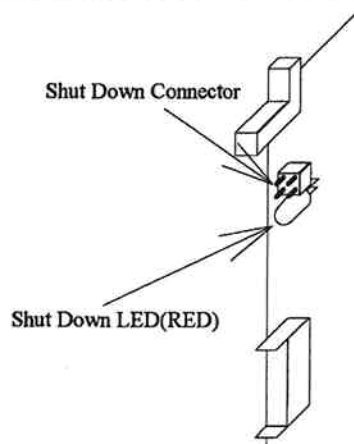

Fig. 3.4.8.5.2-1 Shut Down LED
- a. Confirm that Shut Down LED lights.(Fig. 3.4.8.5.2-1) If the LED does not light, see Connection of Shut Down Jumper(INST03-2600).
- a. Disconnect the SCSI cables from the sub-edge connectors on the PCB referring to Table 3.4.8.5.2-1, Table 3.4.8.5.2-2, and Fig. 3.4.8.5.2-2.